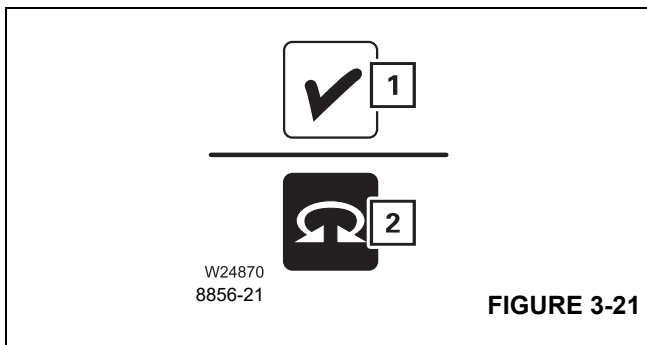

FIGURE 3-21
Regardless of whether the background (1), (Figure 3-21) of a symbol is red or whether only parts (2) of a symbol are red. This applies to all symbols and all colors.